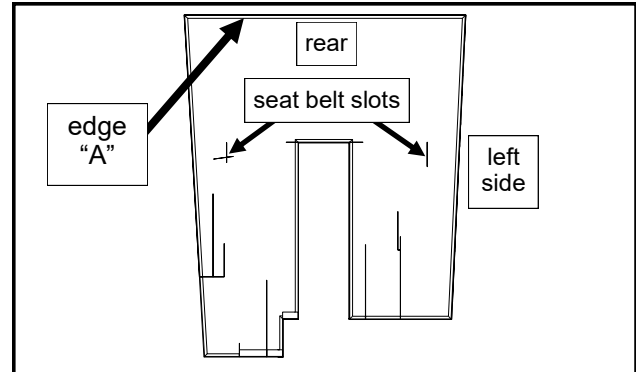

Fig. 17.1a (underseat filler)
17.1 Move and tip the seat forward. Figures 17.1a and 17.1c thru 17.1e show the underseat filler. Begin by doing a dry fit to get a feel for where all areas fit best (underseat filler edges highlighted in white for clarity). Start by lining up straight edge "A" (in fig. 17.1a) with the bottom of the removable rear panel. Apply the corresponding Velcro where deemed necessary and to match the Velcro on the vinyl filler. Do not cover up any factory decals. *Note: make sure to cut Velcro between the removable rear panel and rear legs. Also, slots are for seat belts to pass through on non-TLB vehicles only.*